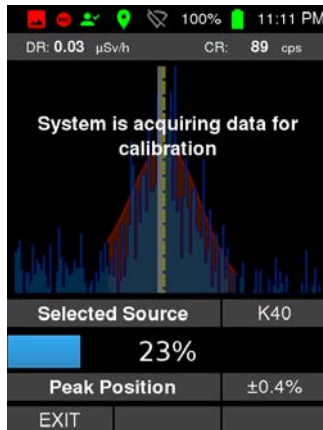

Figure 137: Easy calibration in progress
6. The instrument displays progress in percent (%) during the process (Fig. 137, p. 130).